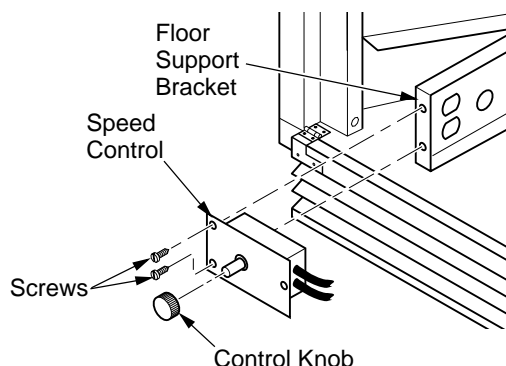

**Figure 19 - Mounting Blower to Firebox (VTGF33NR/VTGF33PR Shown)**
3. Place the blower against lower rear wall of firebox outer wrapper with the exhaust port directed upward. Align the holes in top mounting tabs of blower with holes in wall of wrapper (see Figure 19, page 14). Using two #8 screws provided, mount blower and tighten screws firmly.